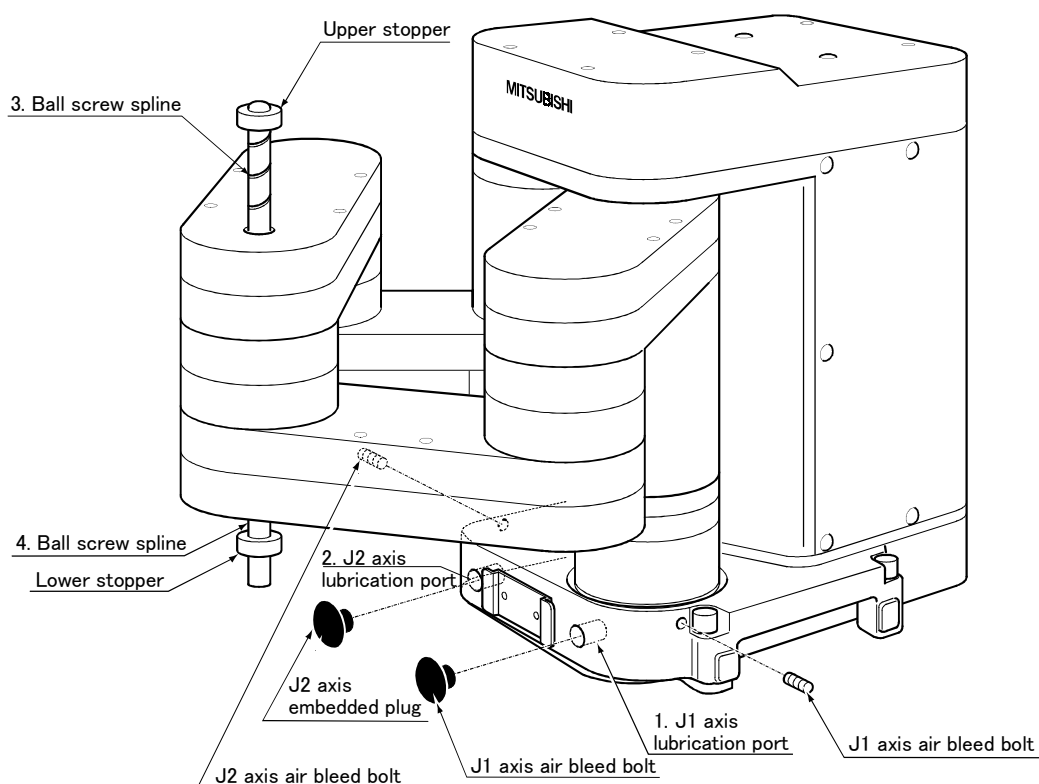

Fig.5-10 : Lubrication positions
- * The numbers in the above table correspond to the supply positions in Fig. 5-10.
(2) Lubrication method of J1, J2 axis reduction gears
- 1) Set the robot to the posture shown in Fig. 5-10. Take care not to put the ball screw spline axis near the grease lubrication port at this time.
- 2) Remove the embedded plug shown in Fig. 5-10.